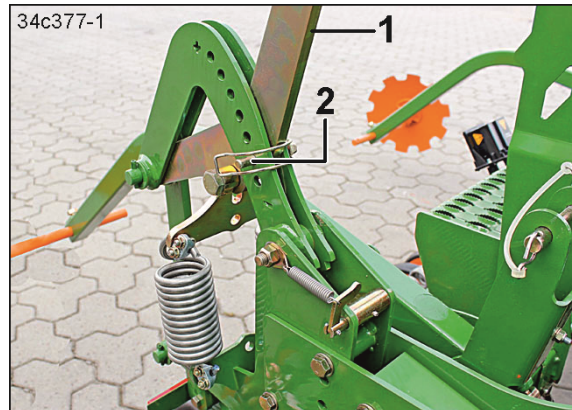

Fig. 201
2. Briefly pull on the lever (Fig. 201/1) and remove the safety pin for the tube (Fig. 201/2).